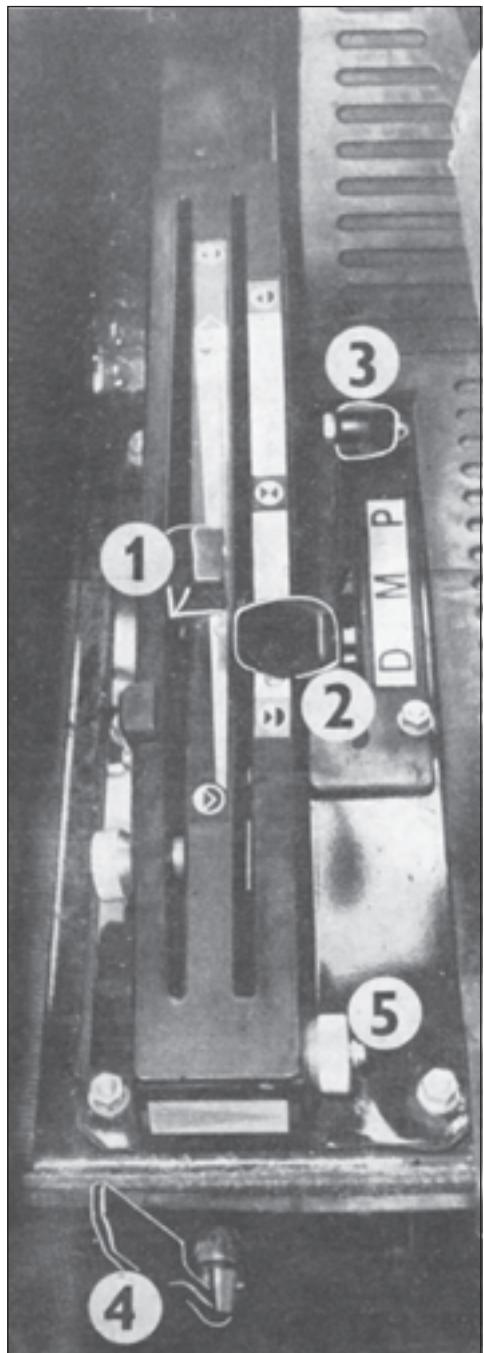

Fig. 50
1. The inner circuit lever (Fig. 50/1) controls the following functions:
2. Selection lever of hydraulic system (Fig. 50/3) is used when selecting the respective regulation. It has three positions labelled as P, M, D.
3. Lever for response control (Fig. 50/4). This lever controls the cock for the response rate which is used for the reduction of the quantity of oil flowing into the inner circuit in connection with the necessary speed of reaction of the hydraulic system according to the art of tractor tasks.
- b) **Outer circuit** — This circuit is controlled with a lever (Fig. 50/2). It supplies pressurized oil to machines and implements which have their own single-acting or double-acting cylinders, or rotating hydraulic motors and/or an additional distributor if needed.
The oil supply to these appliances (indicated by P) will be connected to the quick coupling „1“, the oil outlet (indicated by T) to the quick coupling „0“. In case that the reversed hydraulic motor is used, it will be connected to the quick couplings „1“ and „2“. The control lever has to be moved to the uppermost position in which it can be secured by an adjustable trip dog (Fig. 50/5).